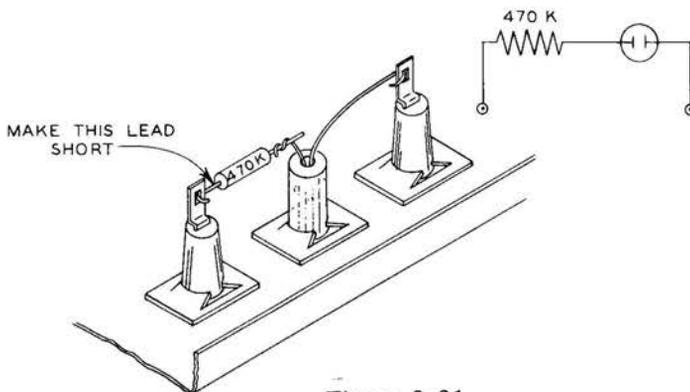

Figure 3-31
- (4) Connect the 470 K resistor (yellow-violet-yellow) to one of the red banana jacks next to the neon bulb. Attach one wire from the bulb to the other end of the resistor and the other wire from the bulb to the second red banana jack, Figure 3-31.